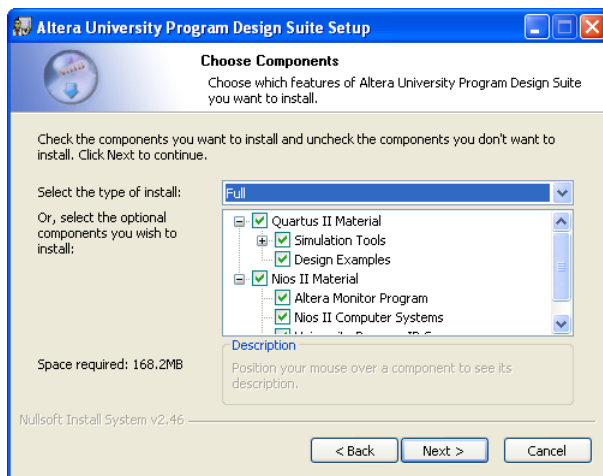
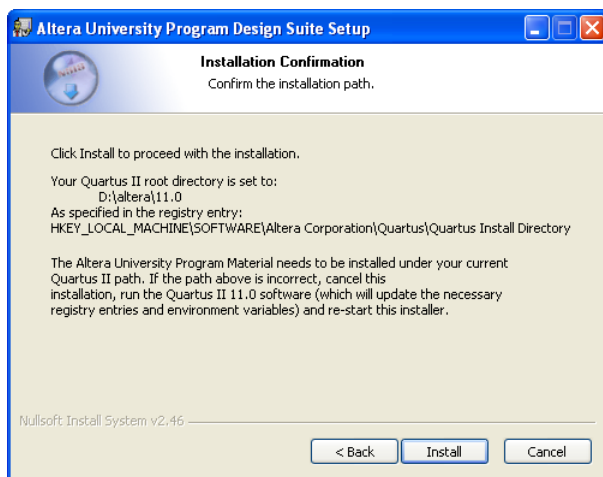

Figure 2. The components that will be installed.
Figure 3. The path where components will be installed.
- The next screen, shown in Figure 2, lists the components that will be installed, which include the Monitor Program software and University Program IP Cores. The University Program IP Cores provide a number of I/O device circuits that are used in Nios II hardware systems. Click **Next** to open the window in Figure 3, which shows the path where the Altera University Program Material will be installed. If the path is incorrect, cancel the installation, run the Quartus II 11.0 software, and re-start the installer.